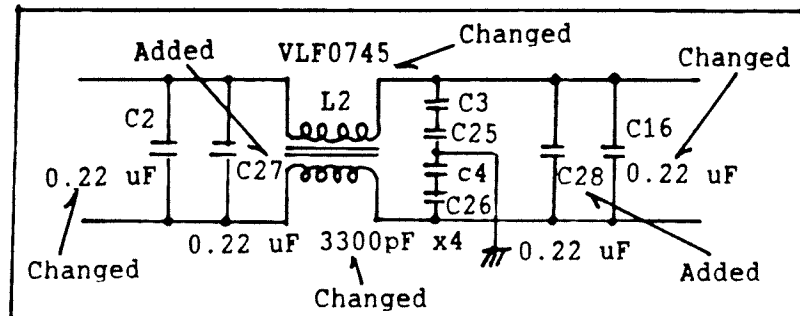

Fig. 1 Page 5-89 (F-3 4)
- (1) Capacitors C2,C3,C4,C16,C25,and C26 and coil L2 have been changed.
- (2) Capacitors C27 and C28 have been added as shown in figures 1 and 2.